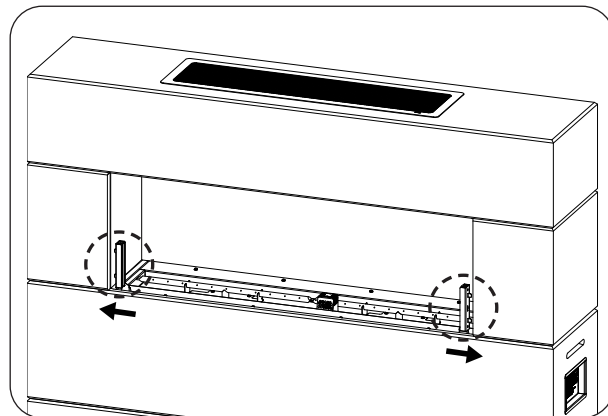
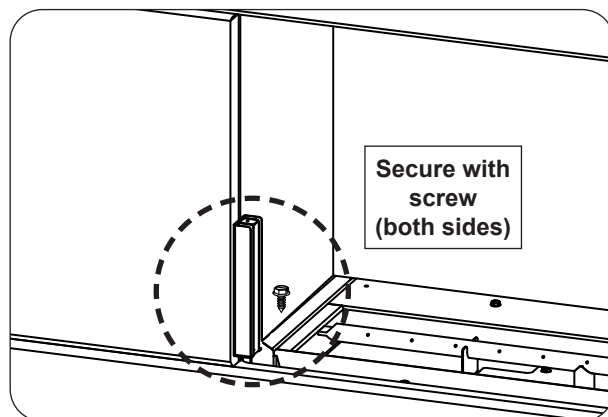

Fig. 33-1 Insert wind guard side brackets
Fig. 33-2 Secure brackets
1. Insert a side bracket, and secure it using a provided hex screw and a $\frac{5}{16}$ " nut driver. See Fig. 33-1 and Fig. 33-2.